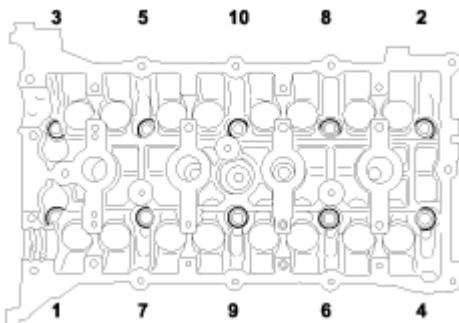

Fig. 14: Identifying Loosening Sequence Of Cylinder Head Bolts
- A. Using triple square wrench, uniformly loosen and remove the 10 cylinder head bolts, in several passes, in the sequence shown in **Fig. 14**.